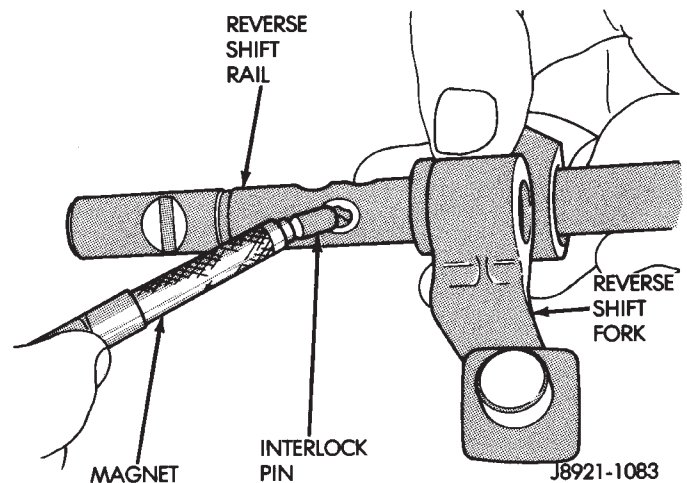

Fig. 86 Installing Reverse Shift Rail Interlock Pin
(1) Coat reverse rail interlock pin with petroleum jelly and install pin in rail (Fig. 86).